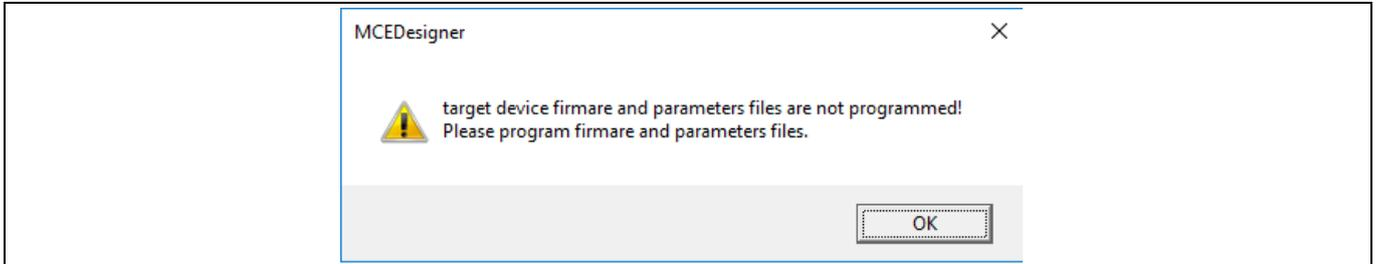

Figure 6 MCEDesigner warning message
- 7. In case of blank IC: If the firmware has been erased from the IMC302A, a warning message will pop up saying “Target device firmware and parameters file are not programmed! Please program firmware and parameters file.” (Figure 6) See step 9 on how to obtain/program firmware and parameters.